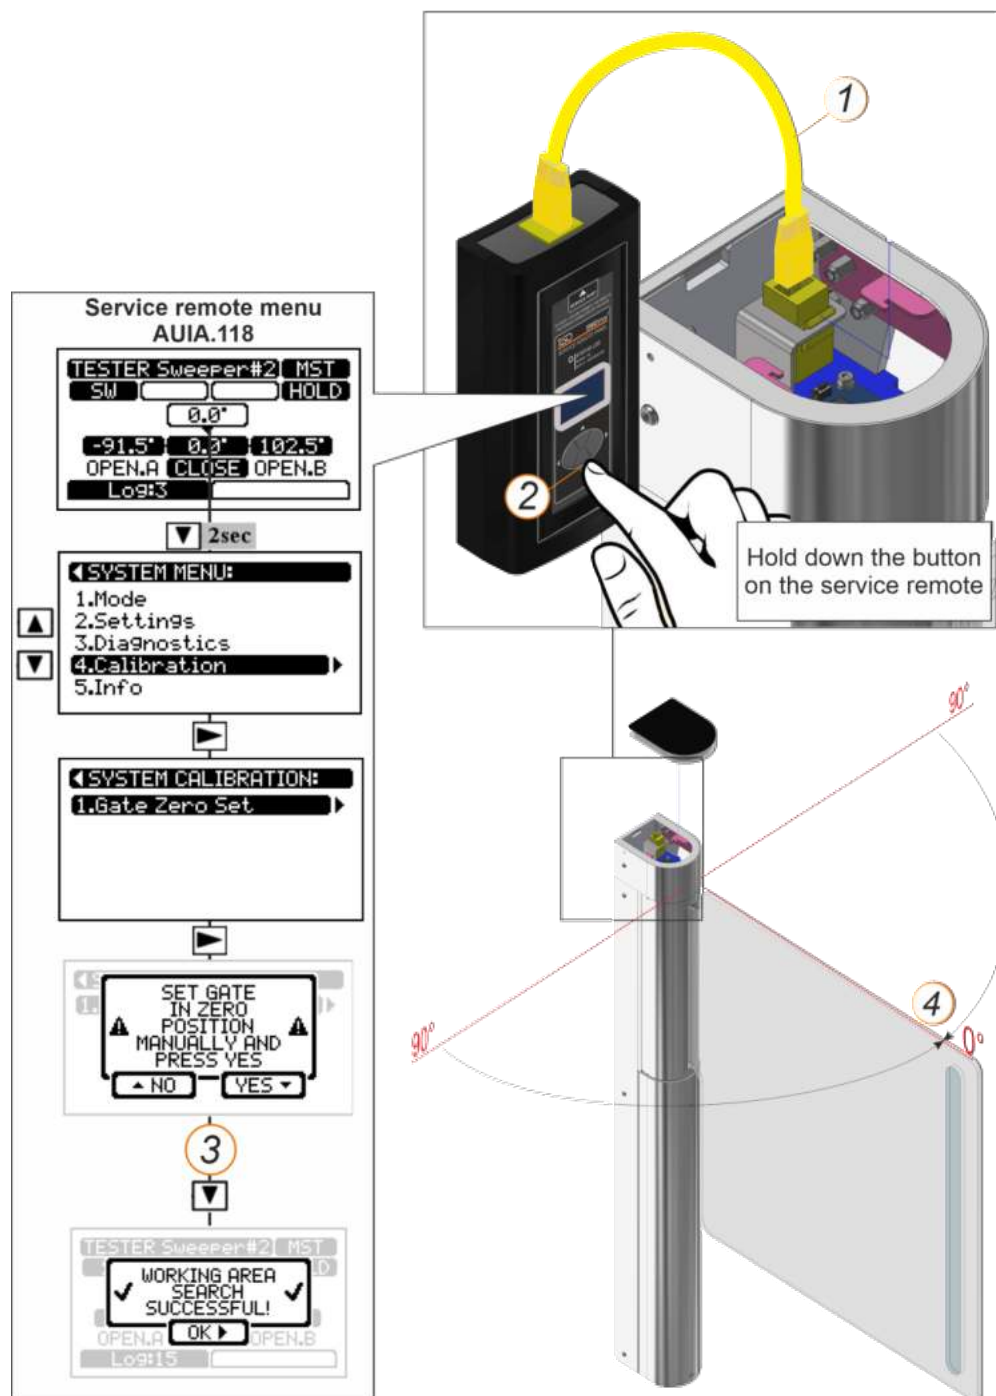

Fig.24 – Adjustment of the leaf zero position using the menu of controller AUIA.401.00.00-01
**Option II (with service remote panel AUIA.118 – see Fig.24)**
- To control the controller, it is necessary to connect the service control panel (1) AUIA.118
- Run the menu holding for 2 seconds the lower button (2) on the **service remote panel AUIA.118** and choose “Calibration”->”GateZeroSet” controller. If you request a calibration procedure, the turnstile will go to “OFF” mode
- Set the zero point of the leaf of turnstile manually (CLOSE(4) position)
- Confirm the start of working area search procedure by pressing “YES” (3) on the **AUIA.118 remote panel** display.
- The controller will save the user-set point as zero (CLOSE position (4) and automatically determine the minimum and maximum of working area.
- Following a successful procedure, The remote panel will display a message (3) for a few seconds «The workspace search was successful» and then switch to the home page: